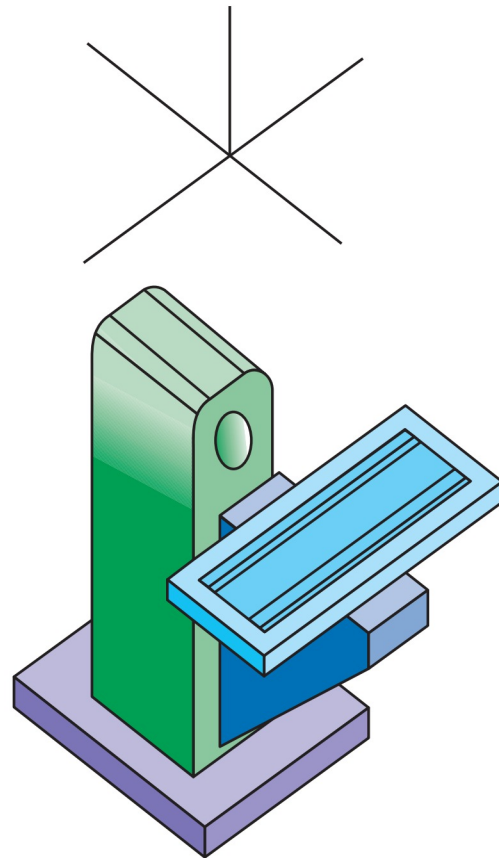

Figure 17-20 Complete the axis set for this horizontal mill.
7. Complete the orthogonal set for the CNC horizontal mill in Fig. 17-20.